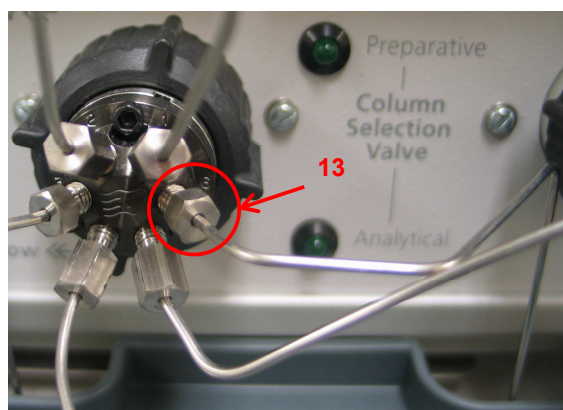

Figure 16: shows the tubing from the prep manual injector valve to position 6 on the column selection valve on the scale up module.
18. You will need to remove any tubing connected to position 6 on the column selection valve on the scale up module. *Figure 16* shows the connection of the tubing from the preparative manual injector valve to position 6 (**13**) on the 6 port column selection valve on the scale up module.